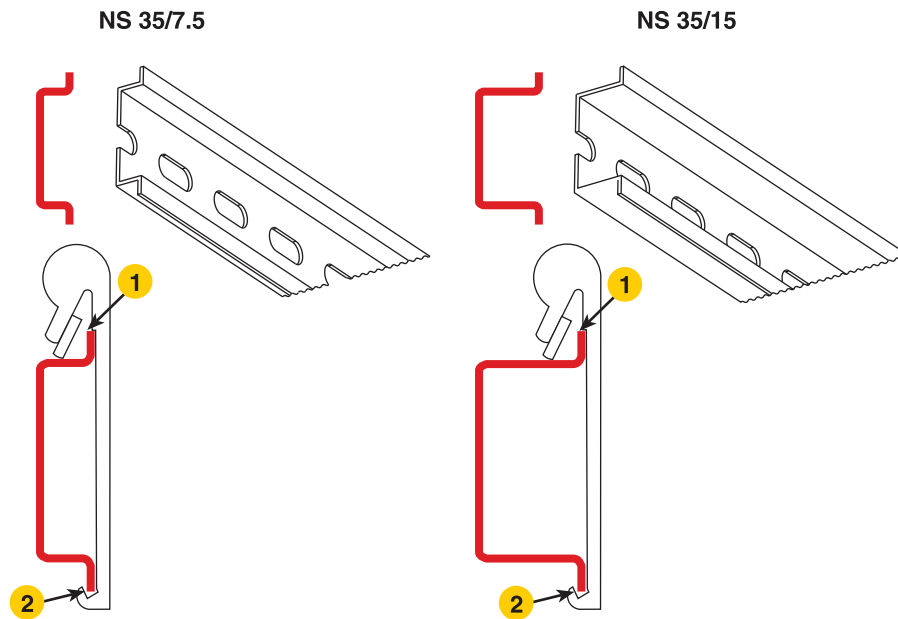

Figure 29. Installing the device onto the DIN rail
Install the device onto the DIN rail by inserting the upper DIN rail lip into the upper DIN rail clip slot (see callout 1 on figure 29 on page 73).
3. Rotate the device until the lower DIN rail lip snaps into the lower DIN rail clip slot (see callout 2 on figure 29).